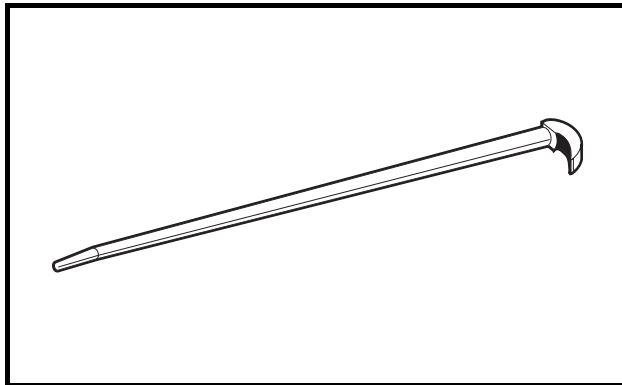
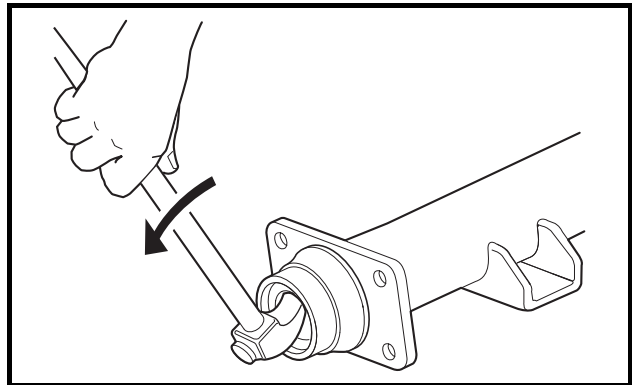

Figure 19-4 Rolling Head Prybar
Figure 19-5 Seal Lip
8. Position a 16-inch (40 cm) rolling head prybar (Figure 19-4, Page 19-3) under the inside lip of the seal and pull the oil seal out (Figure 19-5, Page 19-3). See following CAUTION.